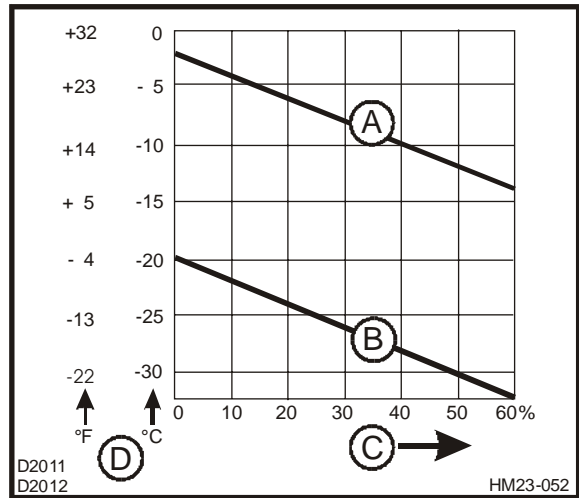

Fig. 36 - Table for the addition of petroleum or additives
- If only summer diesel is available, or if winter diesel must be used at very low temperatures, we recommend the addition of petroleum (Fig. 36) or additives.